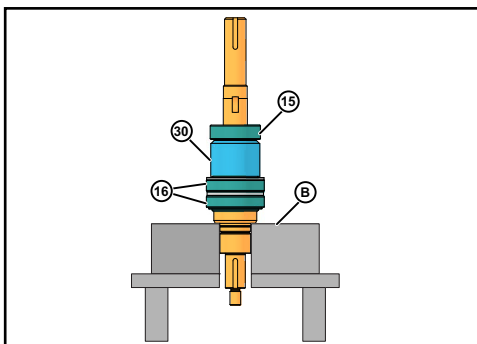

Figure 50 - Remove Bearings From Shaft
12. Use a hydraulic press and V-blocks (Figure 50, item B) to remove the bearings (items 15 and 16) and spacer (item 30)